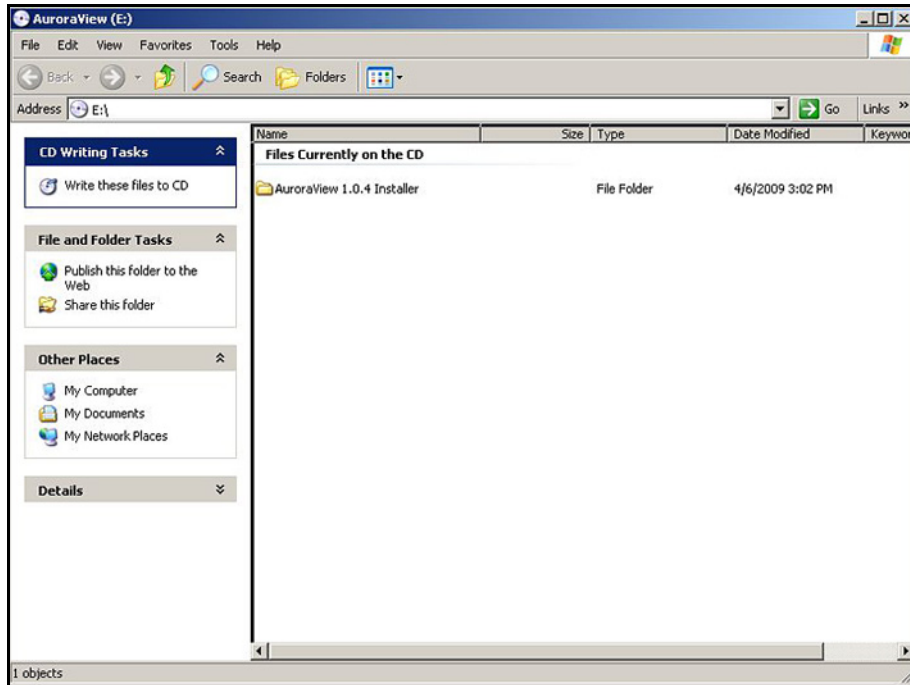

Figure 20: Initial Screen
2. The installation program should launch automatically (see *Figure 20* below). If it does not, select Start → Run → Browse.